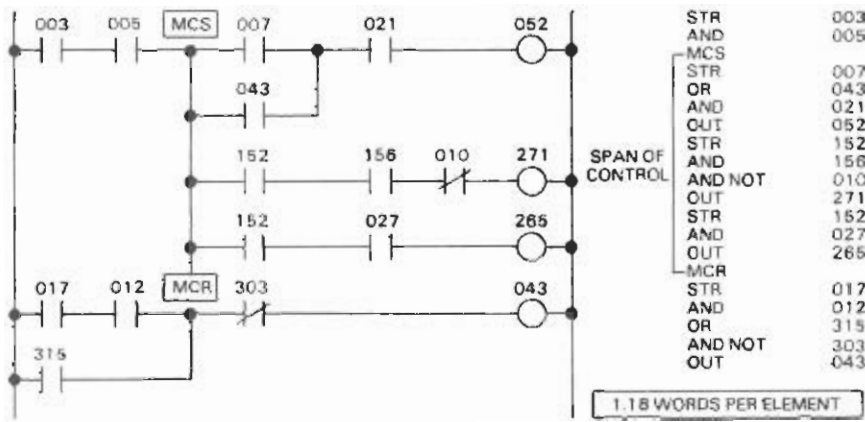

Figure 5.9 MASTER CONTROL RELAY LOGIC
Figure 5.9 illustrates the use of one pair of MCS/MCR functions. In many cases it is convenient to view the MCS function as defining a sub-left power rail whose connection to the main power rail is dependent upon some relay logic. The conditional logic (I003-I005 in this example) is built first using the normal relay logic. The MCS function is entered without any reference, to create the control beginning point. Logic is built using normal functions within the control area. Note the duplication of contact 052, which adds only one memory word. You do not need to count or limit the quantity of relay contacts used in PCs. To end the master control, the MCR function is entered returning control to the next power rail to the left and conventional logic can now be built. Unless both references 003 and 005 are energized (ON) in this example, coils 052, 271, and 265 will be OFF. When these contacts are passing power, coils 052, 271, and 265 will respond to their normal logic.